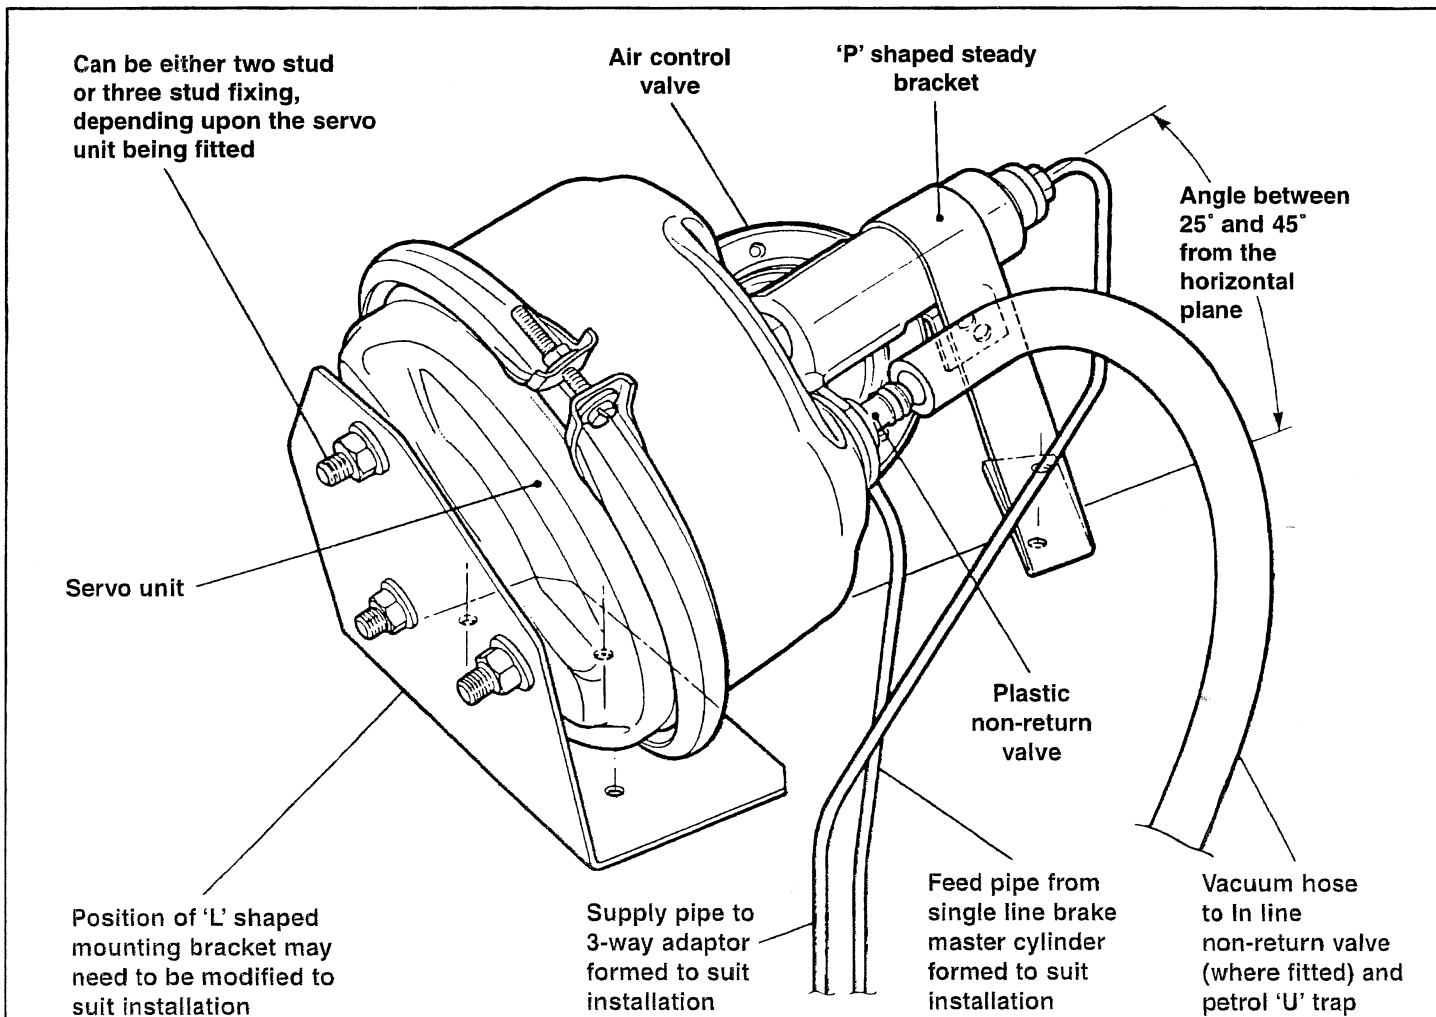
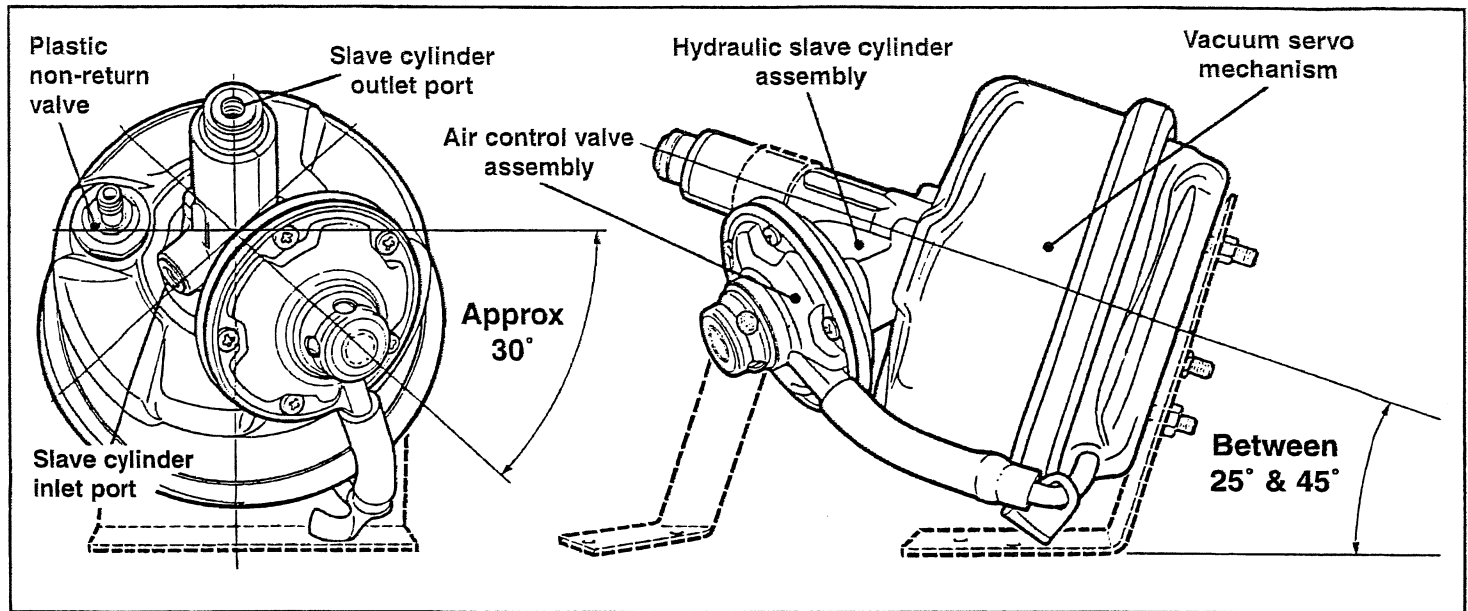

Fig 2
Fig.3
5. With the aid of the mounting brackets and fixings provided in the kit install the servo unit with the hydraulic slave cylinder outlet port **inclined upwards between 25° and 45° from the horizontal plane**. (See Fig.2). The air control valve should be situated **at least 30° below the centre line** to assist when bleeding the hydraulic system. (See Fig.3).